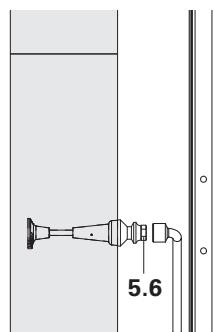

Fig. B1.31
3. Loosen scaffold mounting ring and Bolt M24 x 120 (5.6) on the previous concreting segment with Socket Wrench SW 36 and remove. (Fig. B1.31)